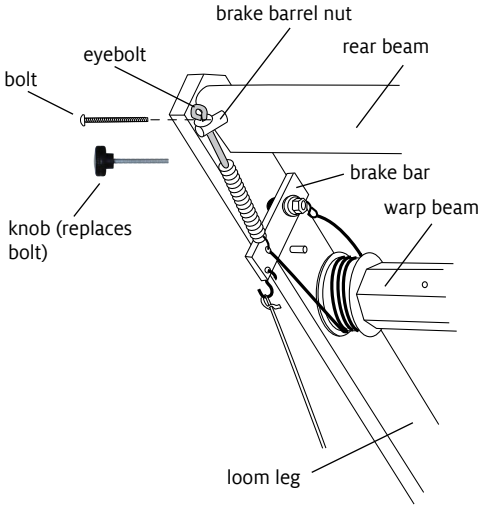
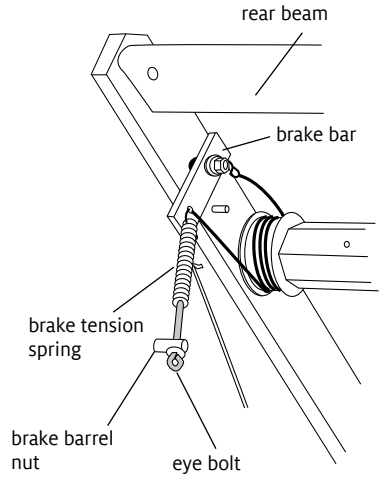

FIGURE 1: REAR BEAM AND BRAKE - LEFT SIDE
FIGURE 2: HANGING BRAKE PARTS
1. Using a Phillips screwdriver, remove the bolt from the top of the left leg (figure 1) while holding the brake barrel nut in place. Insert a knob through the leg, into the brake barrel nut, and tighten.
1. Measure the length of the brake tension spring (figure 1) before you begin. This will help you in getting the tension set later.
2. Loosen the tension on the brake tension spring by turning the eye bolt (figure 1) counter-clockwise.
4. Slide the brake barrel nut (figure 1) out of the rear beam. Allow the barrel nut and brake tension spring to hang loose from the brake bar (figure 2).
3. Insert the brake barrel nut into the rear beam. Insert the knob through the left leg and into the brake barrel nut (figure 1). Tighten the knob to secure.
4. Tighten the eye bolt (figure 1) until the spring is the measured length.